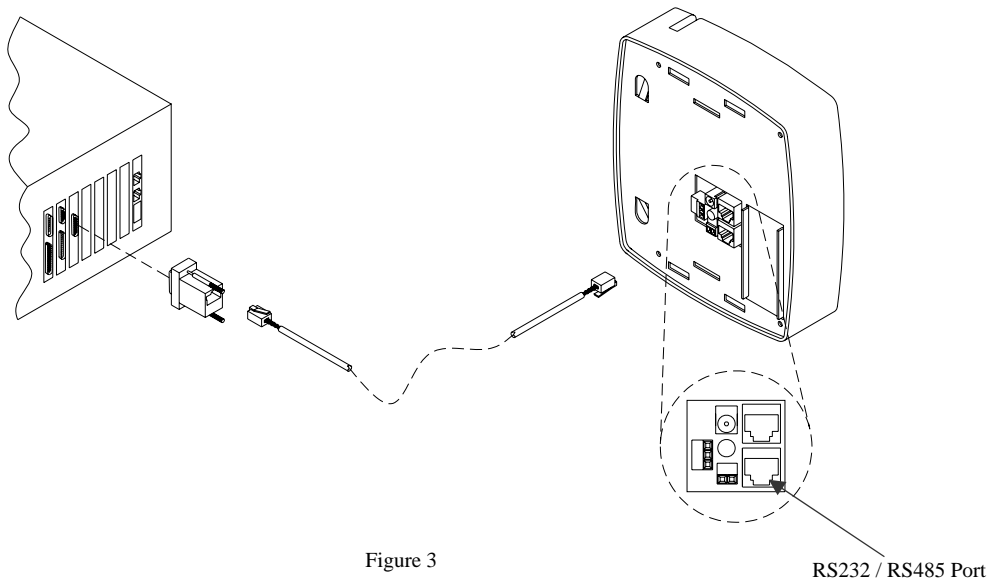

Figure 3
- ◆ Attach the RJ-45 plug to the Terminal's RS232/RS485 communications port as shown in the diagram below, Figure 3.